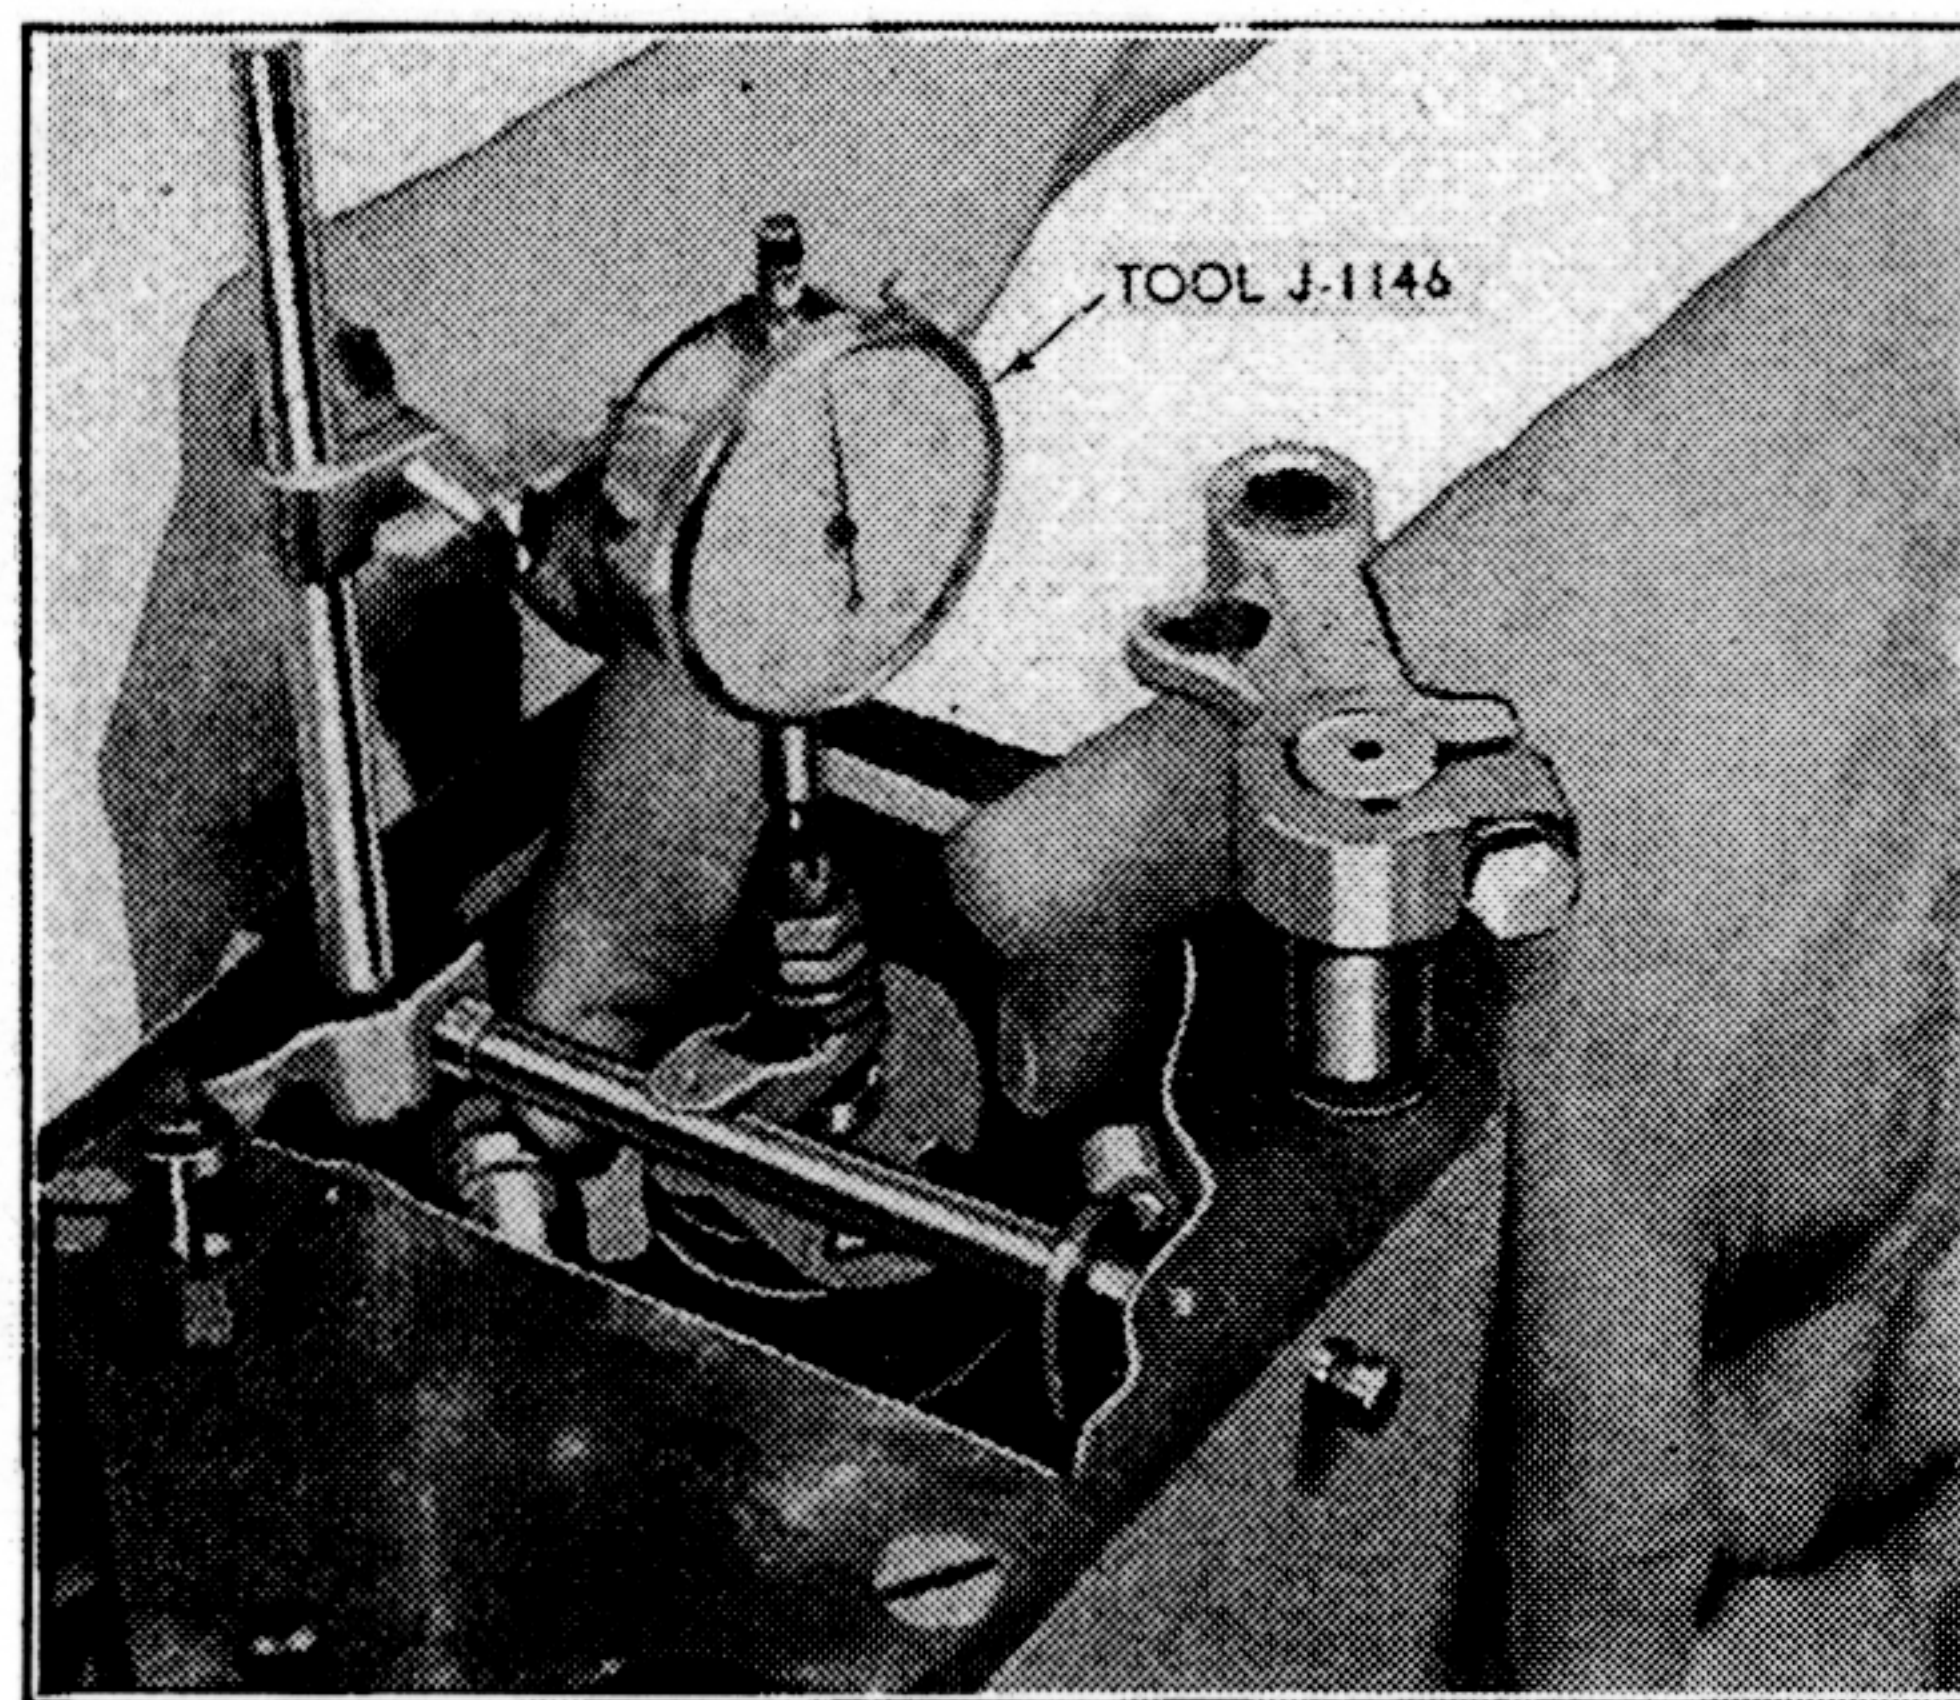

Fig. 23. Checking Governor Setting
1. Set up indicator to check travel of governor. See Fig. 23. With governor weights in closed position, set indicator dial at zero.
2. Spread governor weights slowly, see Fig. 23, noting governor travel when front unit valve clicks over to open position. This should occur at between .200" to .220" upward travel of governor. Now let governor weights slowly